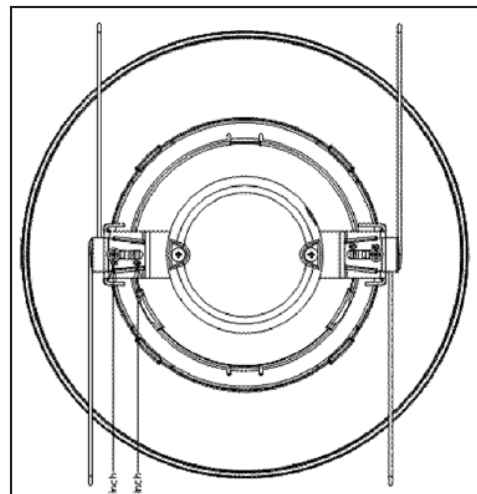

Figure 1:
STEP 2: As shown in Figure 1 - Twist the lamp base into the lampholder.